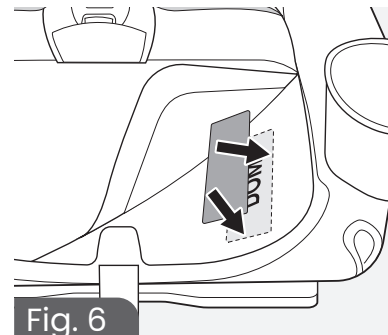

Fig. 6
2. **Align** the new date manufacture label (e) with the existing date of manufacturing label and adhere the label over the existing date of manufacturing label (Fig. 6).